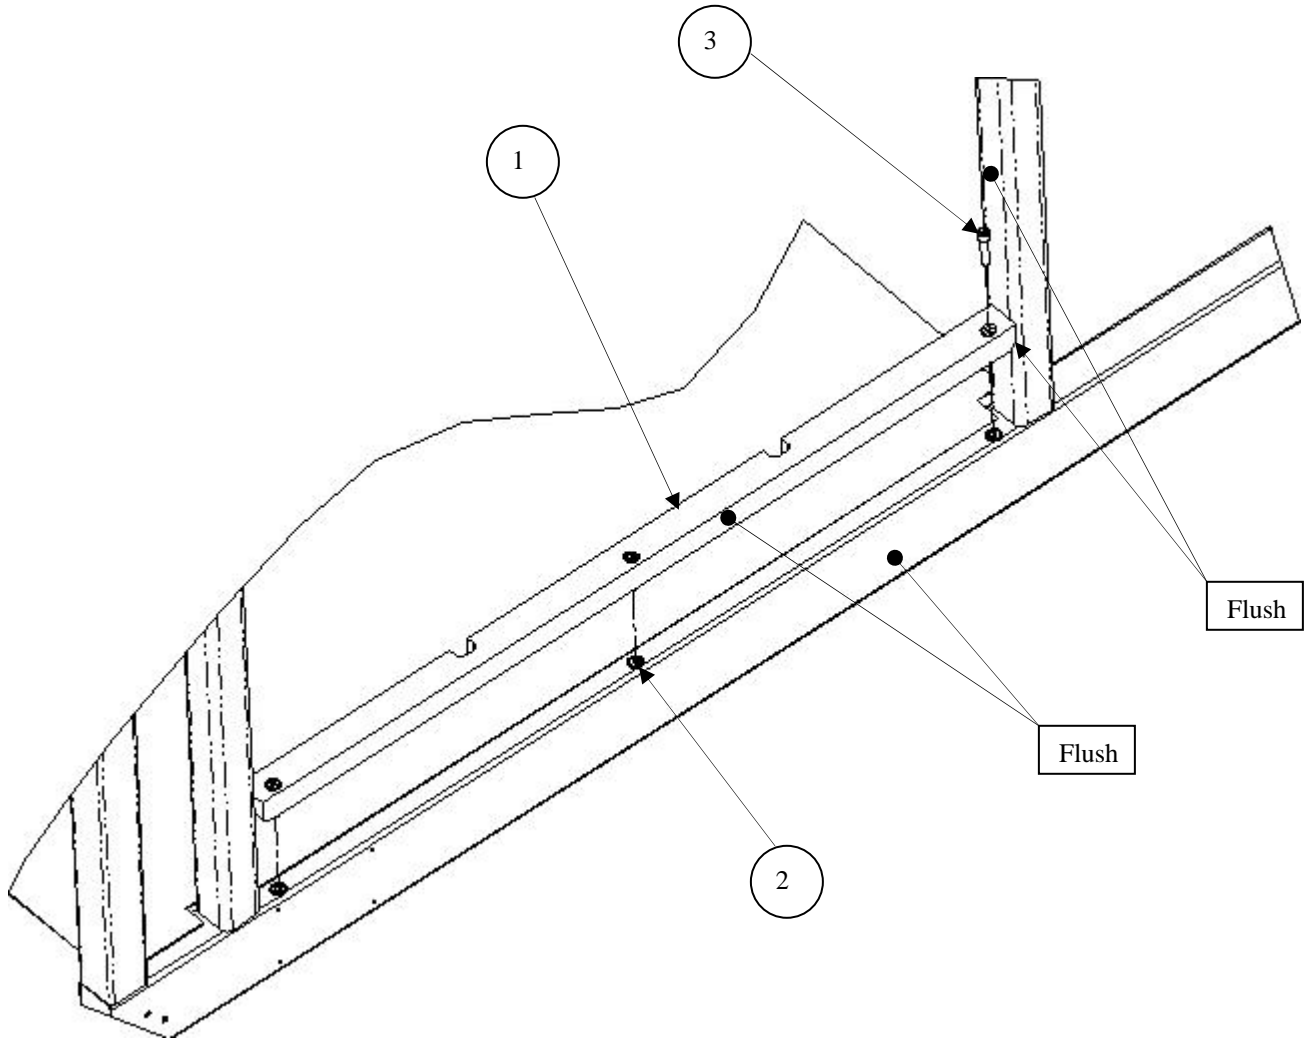

Figure 3-77. Door Sill Block Installation.
1. Install door sill block as follows (see Figure 3-77):
- a. Install door sill block (1) onto door frame and position flush to “B” pillar and outside surface as shown in Figure 3-77. Clamp in place
- c. Remove door sill block (1).
- e. Install three upset nuts (2) into door frame.
- f. Apply Loctite 222 to threads of three screws (3).
- g. Install door sill block (1) and secure with three screws (3). Torque screws to 13 lb-ft.